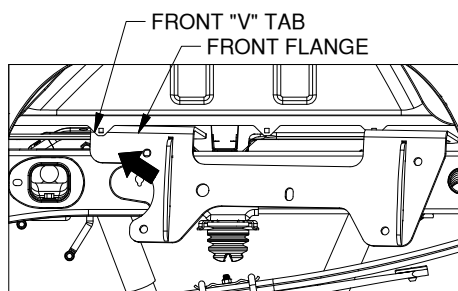
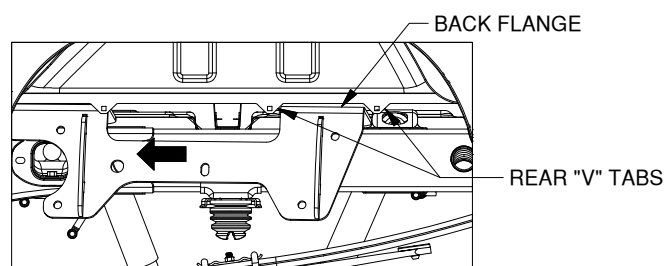
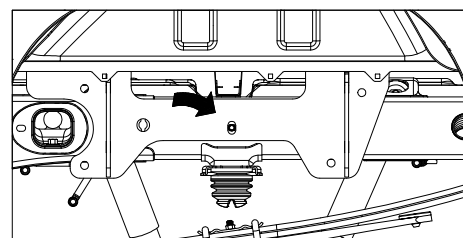
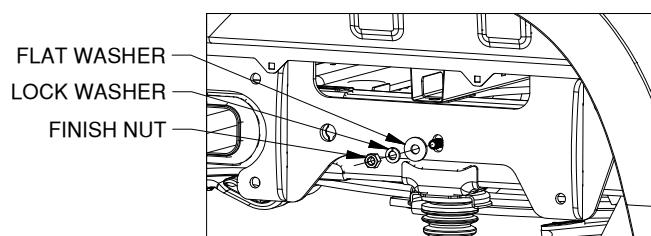

Figure C2: Angle front flange behind "V" tab.
Figure C3: Move side plate forward.
Figure C4: Center the side plate & rotate onto carriage bolt.
Figure C5: Attach side plate with hardware.
- 2a. **(Short bed) Install driver side plate.** Angle the side plate so the front flange can go behind the front "V" tab of the bed flange, see Figure C2. Move the side plate forward, so the back flange can go between the two rear "V" tabs, as shown in Figure C3. Push the side plate rearward, and rotate onto the installed carriage bolt, see Figure C4. Attach side plate with a flat washer, lock washer, and finish nut. See Figure C5. Hand tighten hardware only at this time.
- 2b. **(Long bed) Install driver side plate.** Angle the side plate so the front flange can go behind the front "V" tab of the bed flange, see Figure C2. Move the side plate rearward, so the back flange can go behind the rear "V" tab. Push the side plate forward, and rotate onto the installed carriage bolt, see Figure C4. Attach side plate with a flat washer, lock washer, and finish nut. See Figure C5. Hand tighten hardware only at this time.